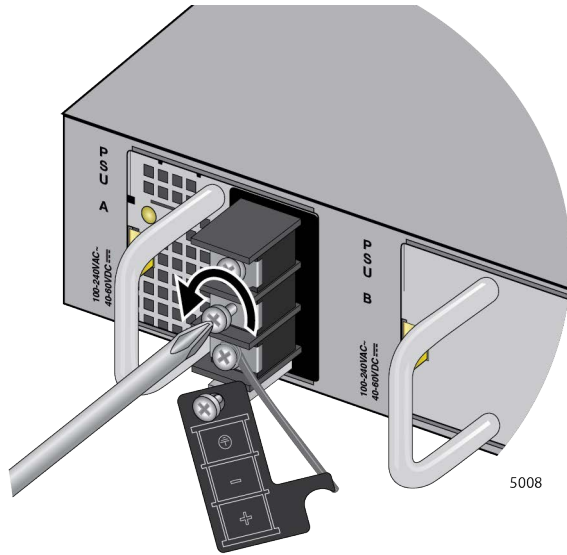

Figure 70. Loosening the Screw for the Negative (-)
3. Loosen the middle screw for the negative (-) with a Phillips-head screwdriver. Refer to Figure 70.